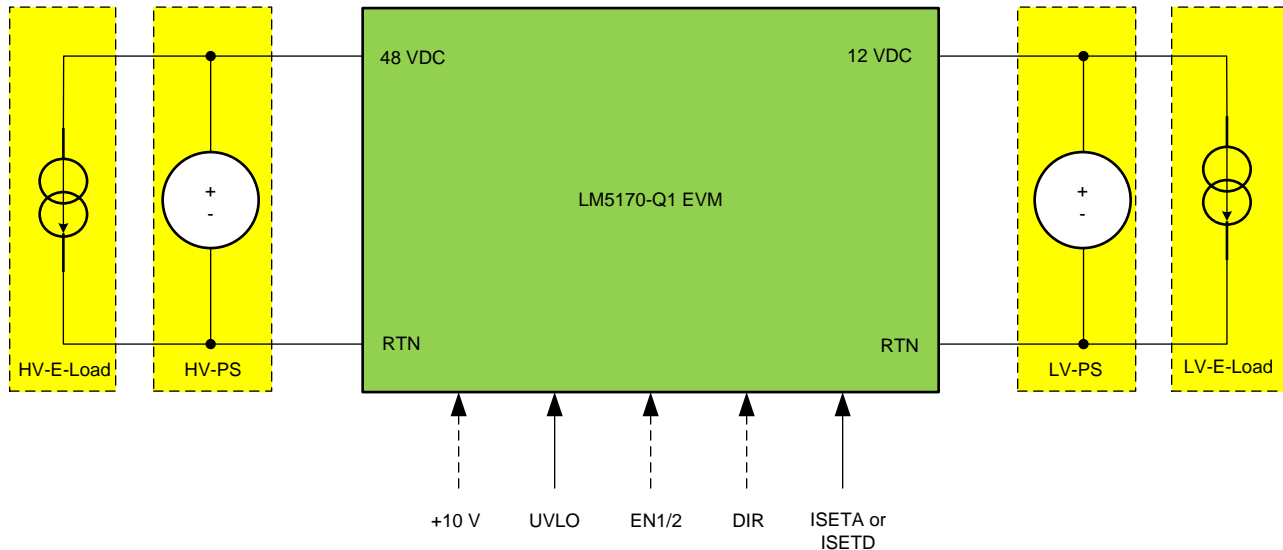

Figure 3. Bidirectional Converter Bench Setup
Figure 3 shows the typical bench setup to operate the EVM in the bidirectional power system environment. The combination of the Electronic Load (E-Load) and bench Power Supply (PS) emulates a battery capable of both sourcing and sinking current. A relatively Higher Voltage Power Supply (HV-PS) and E-Load (HV-E-Load) should be used for the 48VDC-port, and a Lower Voltage Power Supply (LV-PS) and E-Load (LV-E-Load) for the 12VDC-port. The external control signals shown as dashed lines can also be created with the onboard headers.
The EVM operation requires the four external control signals, which are UVLO, DIR, EN1/2, and ISETA or ISETD (refer to Figure 3).